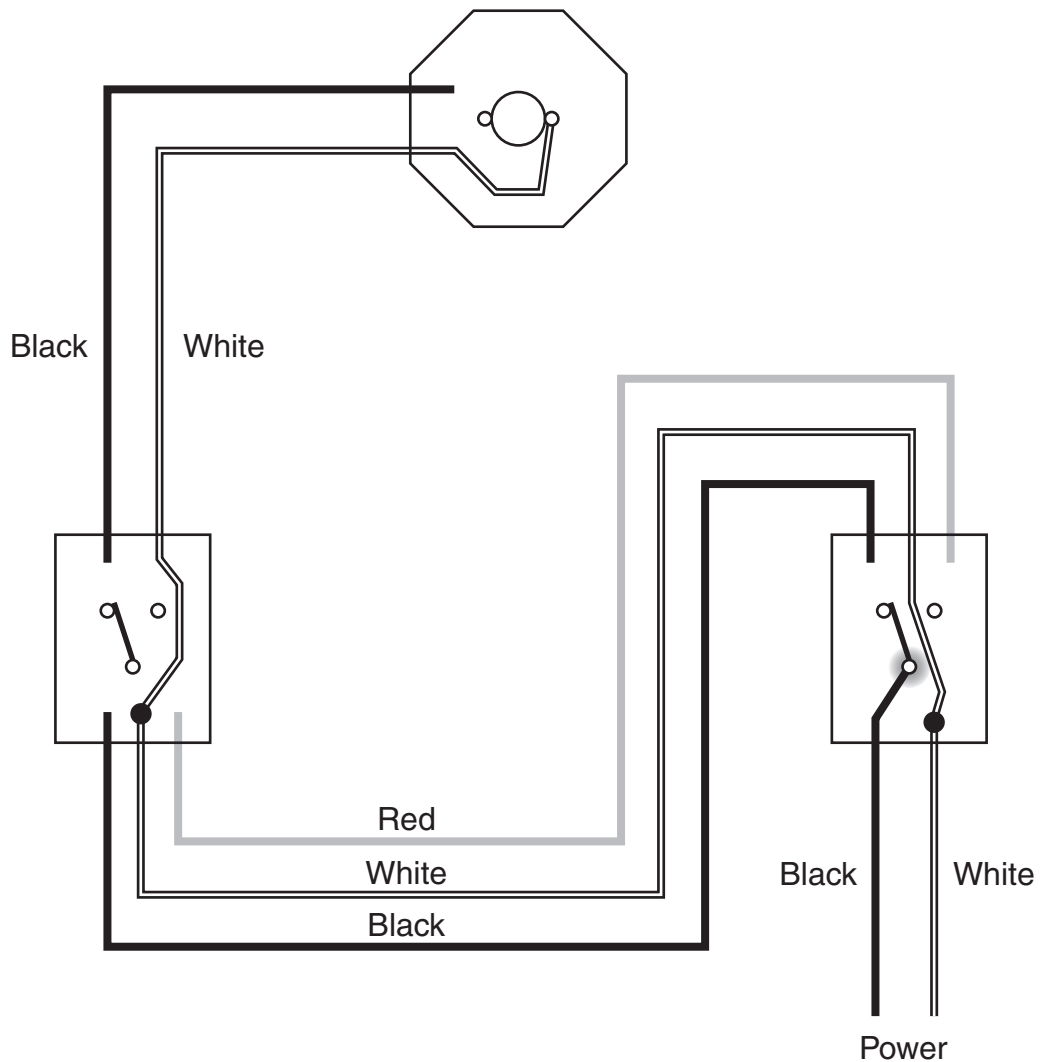

Figure 8-10 Rule 2: Connect the hot conductor to the common terminal of one 3-way switch.
2. *Connect the hot conductor to the common terminal of one 3-way switch.* Since the power cable enters the box of one 3-way switch, the black wire of the power cable will be connected to the common terminal of that 3-way switch (Figure 8-10).